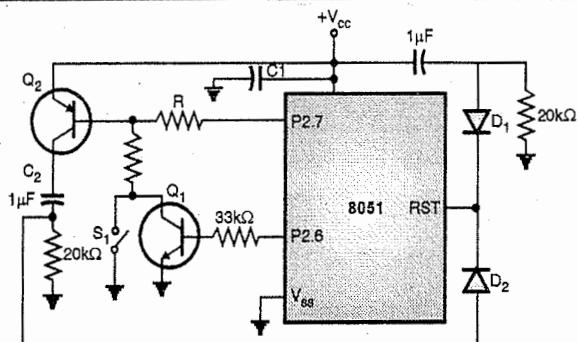

Fig. 1.25.2 : Power switching circuit for power down mode
- To ensure safe power down operation it is essential that the VCC for a secondary circuit should shut down after the microcontroller 8051 is in the power down mode Fig. 1.25.2 shows a circuit for power switching in the power down mode.